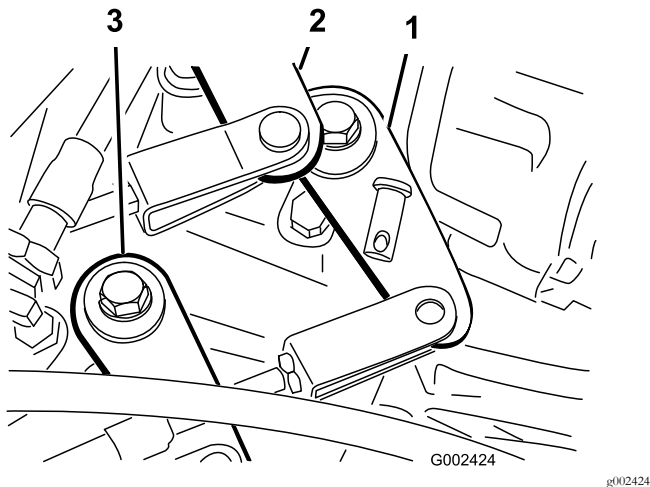

Figure 53
2. Remove the clevis pins securing the shift cables to the transaxle-shift arms (Figure 53).
1. Remove the clevis pin securing the high-to-low cable to the transaxle (Figure 53).